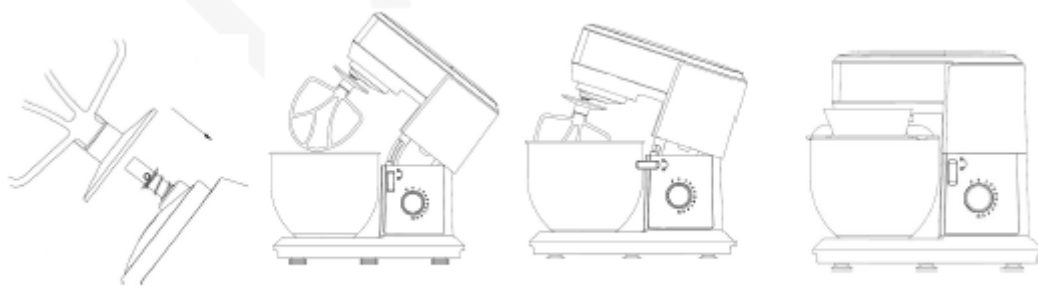

Fig.1
- (1) Turn the “Head release switch” clockwise for 90° to make the head stay at the release status, then lift the head upwards until it is locked well in position.
- (2) To install the accessory onto the lower output port, firstly make the groove of the accessory align with the fixing pin of the lower output port shaft and then insert the accessory into the lower output port, then push the accessory upwards and rotate it clockwise to fix the accessory onto the fixing pin of lower output port shaft (see Fig.1).